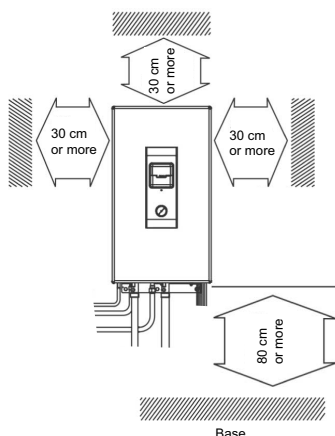

Fig. 2.31: Indoor unit installation
- Minimum clearances must be observed (see Fig. 2.31 on page 30)